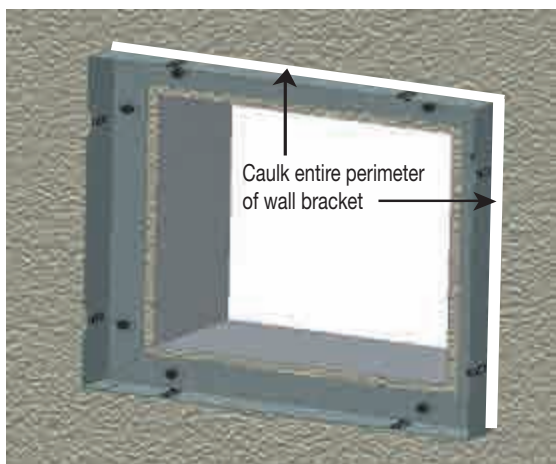

Figure 1
4. Caulk the perimeter of the wall bracket to ensure a watertight seal. See Figure 1. Shims or additional sealant methods may be needed for an uneven wall surface.